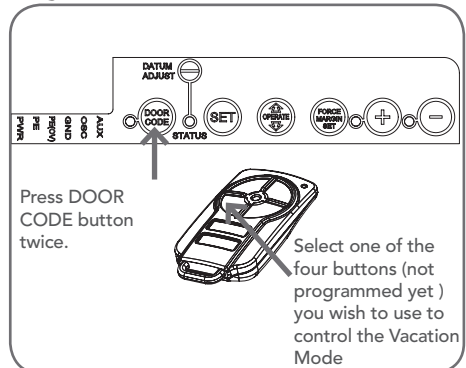

Fig. 8.2
- Briefly press the DOOR CODE button once, then press it again and hold (will beep two times on second press (**Fig. 8.2**)).
- Press one of the four (4) buttons on the transmitter for two (2) seconds, pause for two (2) seconds, then press the same button again for two (2) seconds.
- Press and hold the transmitter button for six (6) seconds to set Vacation Mode. The door code LED will stay lit while Vacation Mode is active.